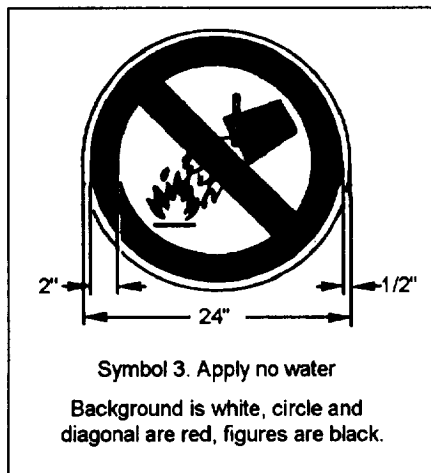

Figure 2-3.—Fire direction symbol.
**FIRE-FIGHTING DIRECTION SYMBOL.**— Where pyrotechnics are involved, there are times when the use of water can intensify the fire, the hazard of explosion, and/or the spreading of the fire. The “apply no water” symbol, shown in figure 2-3, is intended to inform fire-fighting personnel of the danger involved in containing the fire.